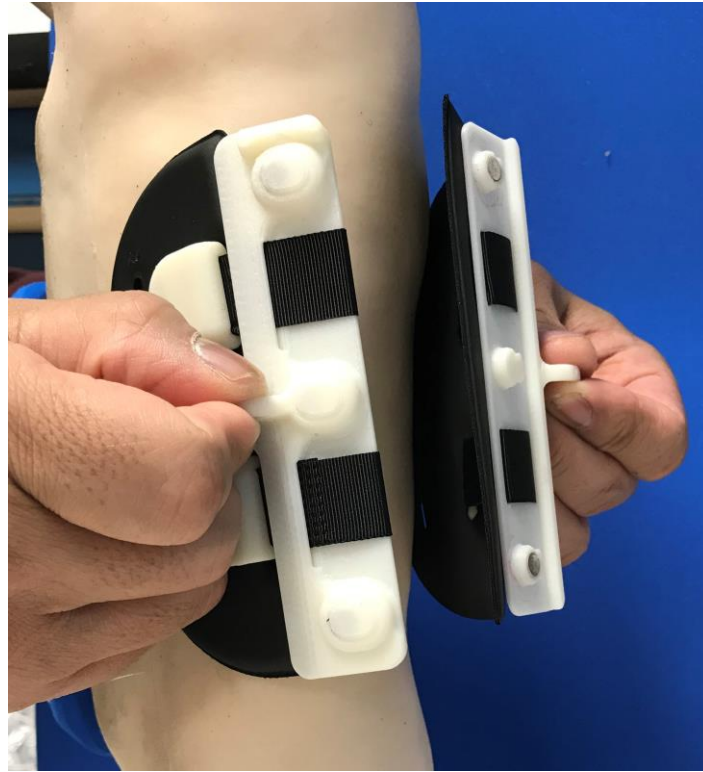

Figure 9. Placement – Loosen Strap; Grasp handles. Place around leg. Snap to fasten
4. Bring together the two flaps of the magnetic clasp as illustrated in **Figure 9**. Ensure that the flaps are properly positioned so the magnets attract each other and secure the halves
5. Once the magnetic clasp is closed, tighten the hook and loop straps to secure the Cirvo Device in place. You will further adjust the tension of the straps using the Cirvo App (see **Figure 9**).